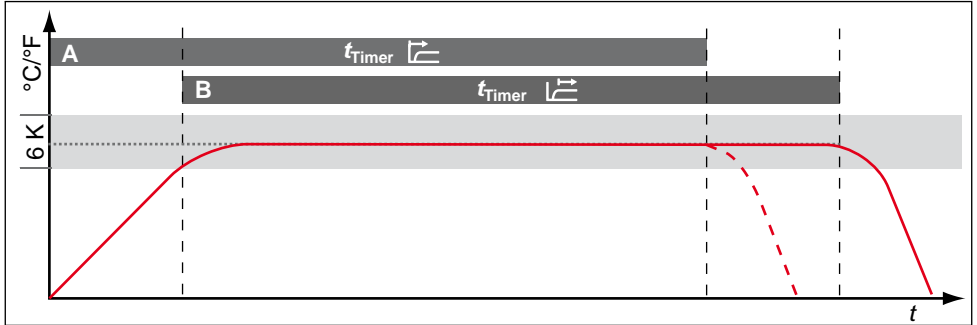

Fig. 22 Timer Mode
For universal ovens UN/UF and incubators IN/IF, you can choose whether the digital backwards counter with target time setting (see page 26) should run setpoint-dependent or not – this determines if the timer should not start until a tolerance band of ± 3 K around the set temperature is reached (Fig. 22, B) or if it should start right after activation (A).